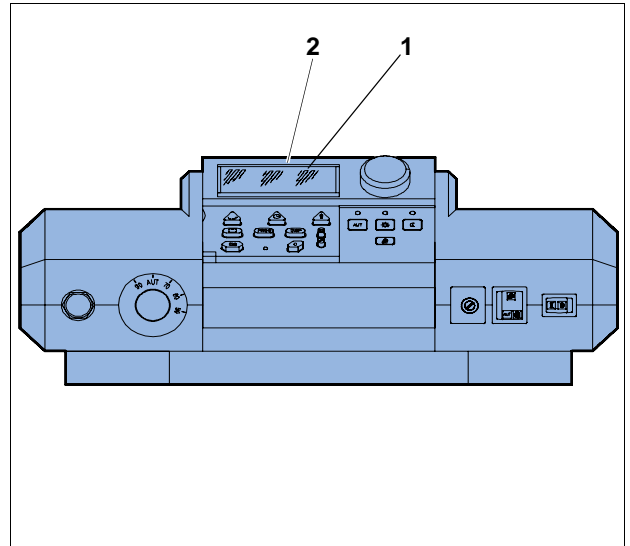

Fig. 3 Burner fault indication
Heating system faults are indicated in the control device display (Fig. 3, **item 2**). You will find detailed information regarding fault displays in the operating instructions of the respective control device. In addition, if the burner develops a fault, a fault lamp on the burner and an indicator on the (Fig. 3, **item 1**) control device may illuminate.